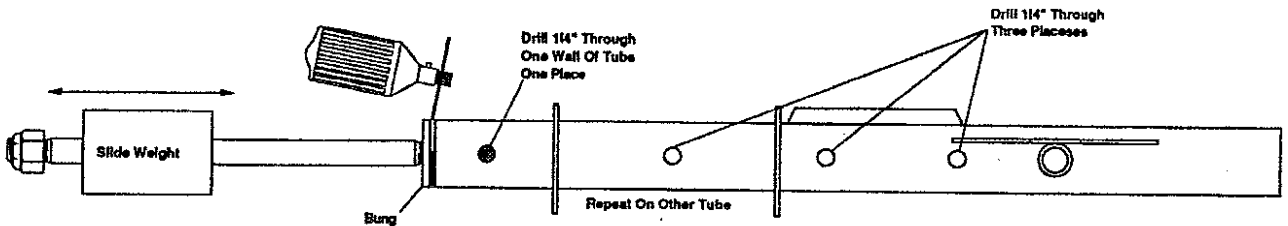
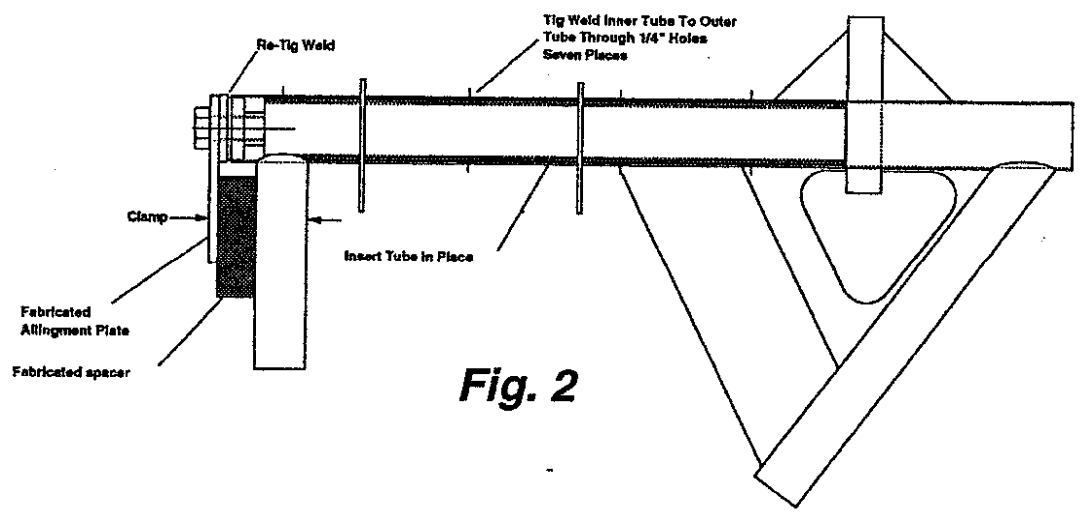

Fig. 1
Fig. 2
At the request of some customers, RHCI has made available an upgrade kit that would give added strength to this area by increasing the tube wall thickness. The upgrade can be accomplished by following the directions in Figure 1 and Figure 2, by installing an insert tube inside each side of the frame and welding it in place.
2. Fabricate a wooden spacer to fit the gap between the plate and the vertical frame tube as shown in Figure 2. This will be used to relocate the threaded inserts and to prevent the frame from deforming during welding.
- Carefully cut the welded area off of the threaded insert to detach it from the 1" tube. A rotary tool with abrasive cutting wheel is recommended. Try not to damage the tube or threaded insert. After the weld is cut, it may be necessary to use a long bolt or all-thread with a slide weight, and gently tap the threaded insert off of the 1" tube as shown in Figure 1.
3. Drill 1/4" holes in four places per tube as shown in Figure 1. Three of the holes go all the way through the tube and one only goes through one side of the tube.
5. After insert tube is installed, bolt the threaded inserts onto the fabricated plate. Use a "C" clamp to secure the plate, wooden spacer and threaded inserts into the original location on the frame as shown in Figure 2.
6. Tig weld the threaded inserts to the 1" tube, and then Tig weld all fourteen (14) holes, joining the insert tube to the 1" tube. Grind the weld on the holes smooth, stress relieve and repaint.